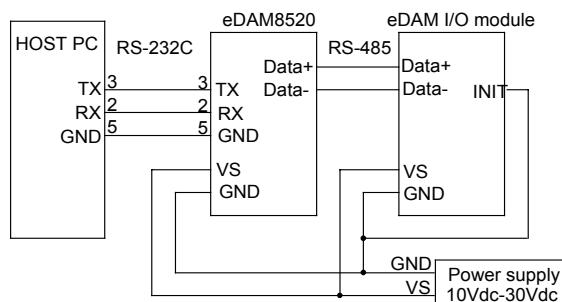

Figure 4.1
2. Connect a brand new eDAM module with the RS-485. Set the module in *Default State* by shorting the INIT* pin to GND. Refer to Figure 4.1 for detailed wiring.